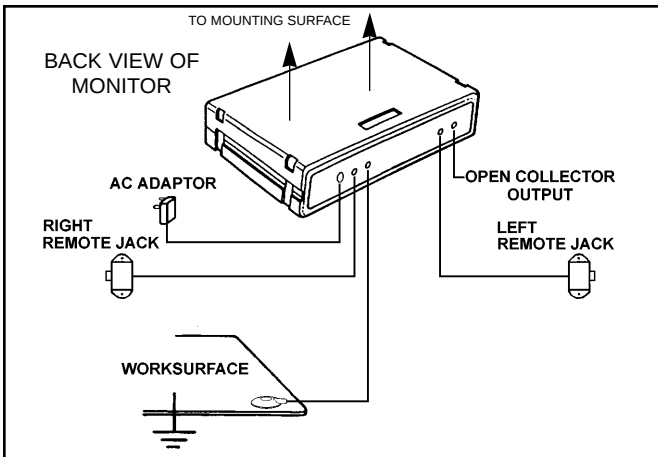

Figure 4. Wiring connection instructions for the 19208.
Figure 4 shows the monitor as it is viewed from the rear, with the work surface wiring in place.
1. Use rear access connections when using monitor with remote jacks. Access holes are provided on the bottom of the unit to loosen/tighten connections. See Figure 4 for wiring connection instructions.
3. **Confirm that worksurface surface resistance is 5×10^8 ohms or less.** Connect the stripped end of the work surface cord included with the unit to the terminal marked "Work Surface" on the back of the unit. Snap the other end to the worksurface as shown in figures 4 and 5.
The model 19208 monitor also incorporates logic output circuitry. The unit is designed with an open collector circuit that can be set up to activate remote sirens, alarms or interface with a computer. The open collector circuit is accessible through the terminal screw on back of the monitor. See figure 4 for location.